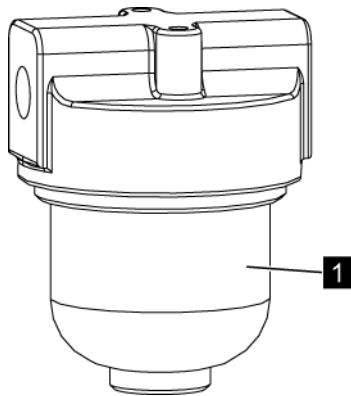

Fig. 222: Filter bowl
3. ➔ Place a suitable container for hydraulic oil underneath the filter bowl (Fig. 222/1).
4. ➔ Carefully unscrew the filter bowl (Fig. 222/1).
6. ➔ Check the filter bowl (Fig. 222/1) for damage and clean it.